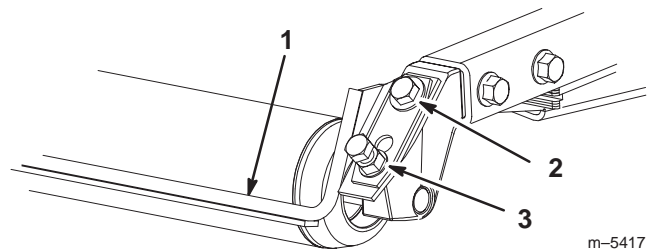

Figure 4
1. Loosen the top 2 mounting screws and the lower 2 flange nuts (Fig. 4).